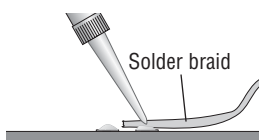

Figure 1.4.
- 4 Use solder braid and a soldering iron to remove the solder from the two pads (Figure 1.4).